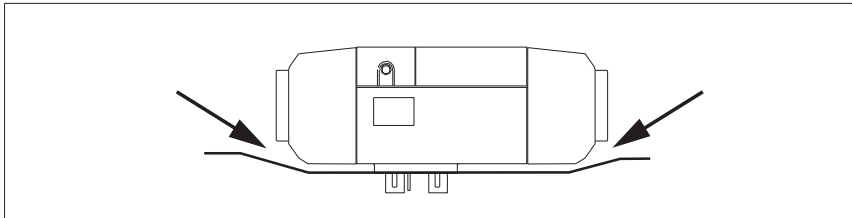

Fig. 7 Ensure ease of movement of all moving parts!
- ▶ Make sure that the casing of the heater is clear, i.e. does not make contact with any other parts, in installed position (see Fig. 7).